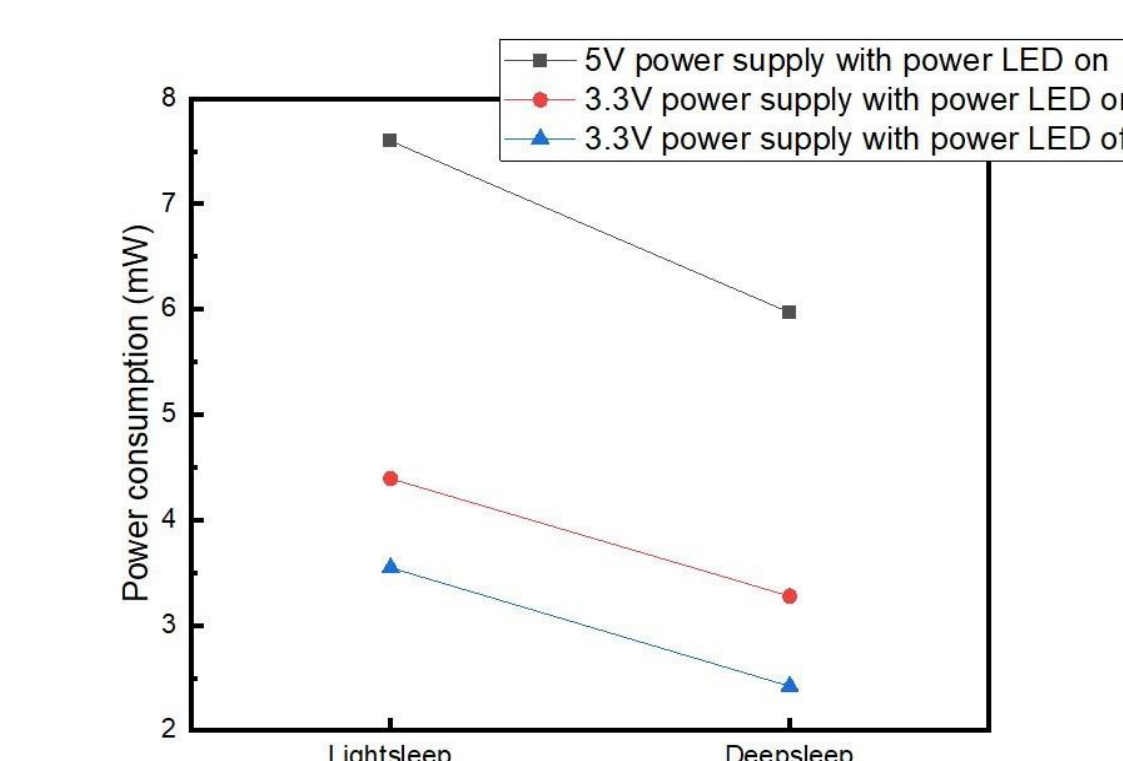

Figure 7. Power usage during Wi-Fi scan, light/deep sleep, under different voltages and LED states
- See Figure 7 for differences in power saving